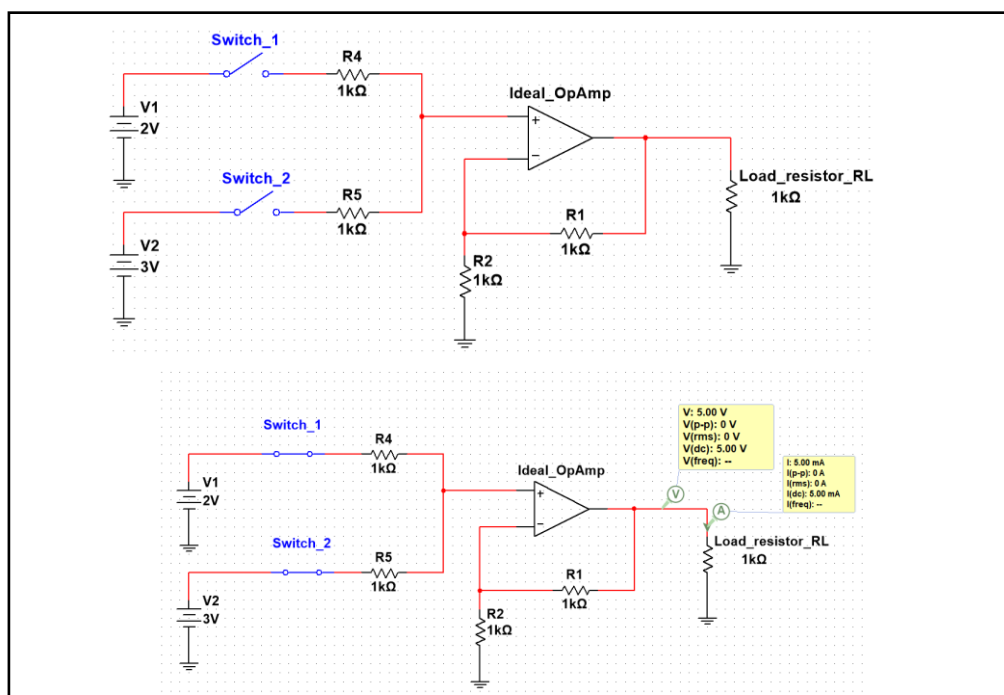

Fig 4.1: Circuit Diagram Showing Summing Amplifier Circuit Connected in MultiSim Software
- Make the circuit connection as per the Fig. 4.1.